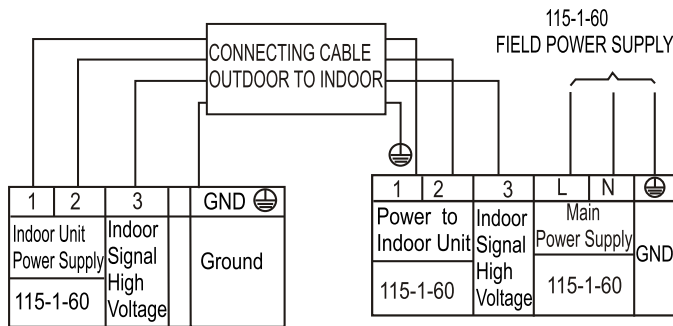

Fig. 23 — Connection Diagram 12K (115V)
2. All connections between the indoor and outdoor units must be made as shown in Figures 23 - 25. The connections are sensitive to polarity and will result in a fault code.